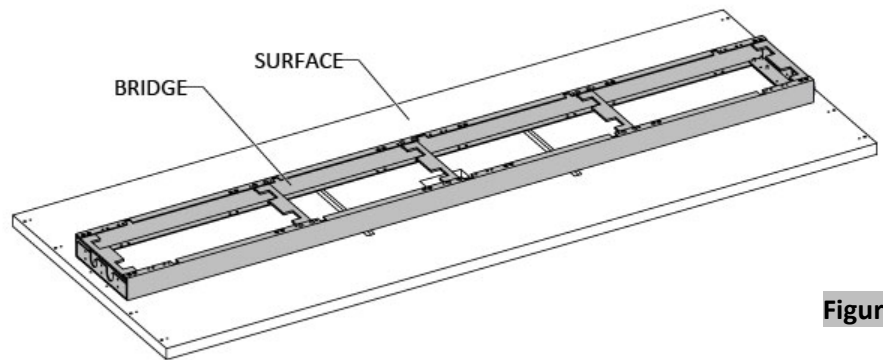

Figure 2
2. Position the bridge on the surface, (Figure 2).